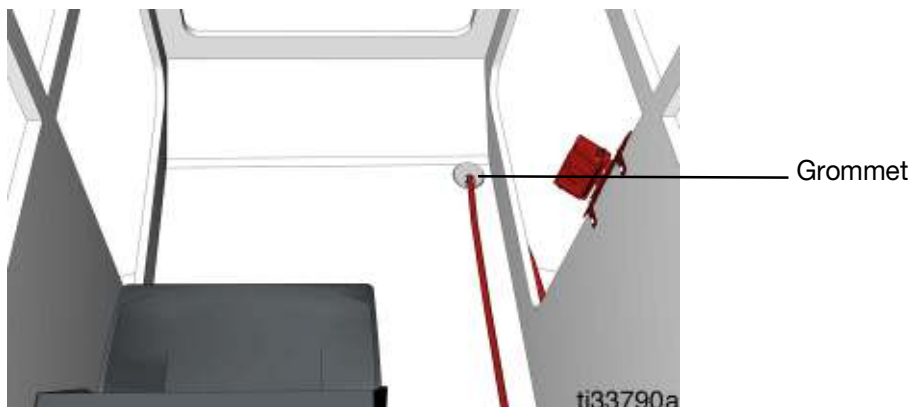

FIG. 14
1. Route the power cable from the pump through the body of the machine and under the cab to protect it from the environment, and to aid in wiring into the cab. For installations using a proximity switch and a controller, route the prox cable along the same path as the power cable (FIG. 14).
2. Route the power cable into the cab through the rubber grommet located under the floor mat (FIG. 14).